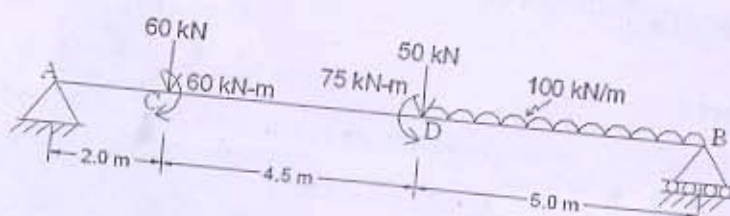

Figure 9
- (a) Draw Shear Force and Bending Moment Diagram for the beam shown in **Figure 9**.